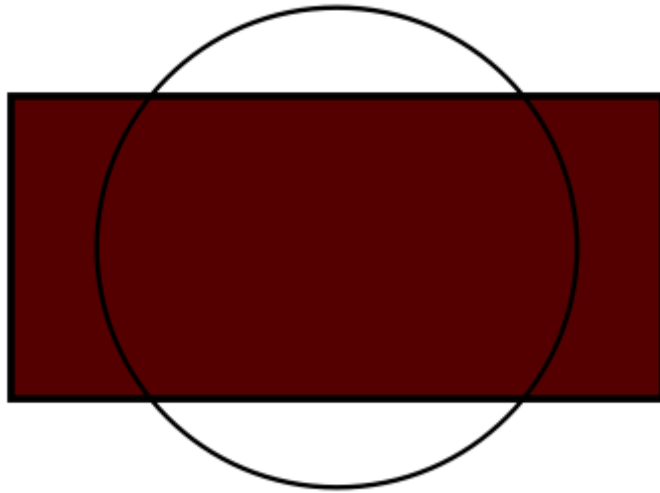
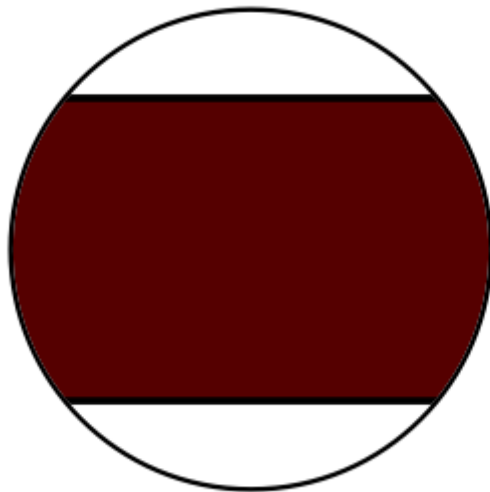

Figure 13.30: Rectangle and ellipse before clipping.
Figure 13.31: Rectangle and ellipse after clipping.
- The before and after effect of clipping can be seen in Fig. 13.30 and Fig. 13.31.